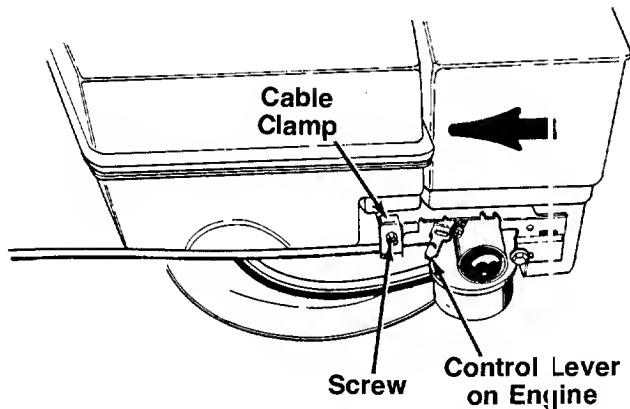

FIGURE 6B.—Model 177R Only
- The throttle control cable is attached to the upper handle. Route the throttle control cable under the lower handle, inside the handle mounting bracket and beneath the catcher panel. Hook the "Z" end of the throttle control cable into the control lever on the engine as shown in figure 6B.
- Loosen (do not remove) the screw on the cable clamp shown in figure 6B. Slip the control casing under the clamp (cable must move freely beneath the clamp).